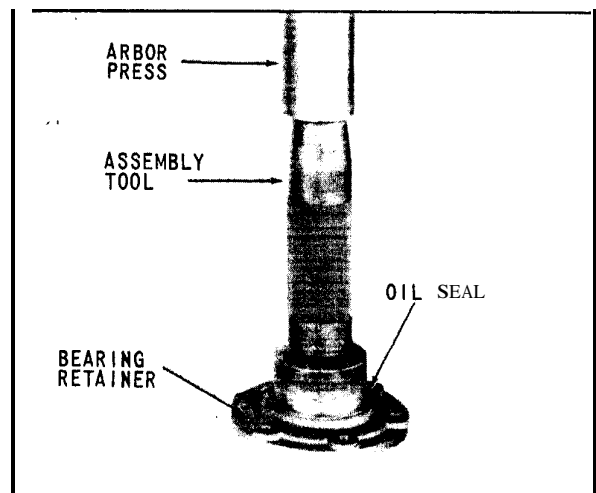

Fig. 22 Pressing Oil Seal in Retainer
3. Using arbor press and suitable tool, as shown in (Fig. 22), press the oil seal into the bearing retainer until the rear face of the oil seal is flush with the rear face of the bearing retainer,